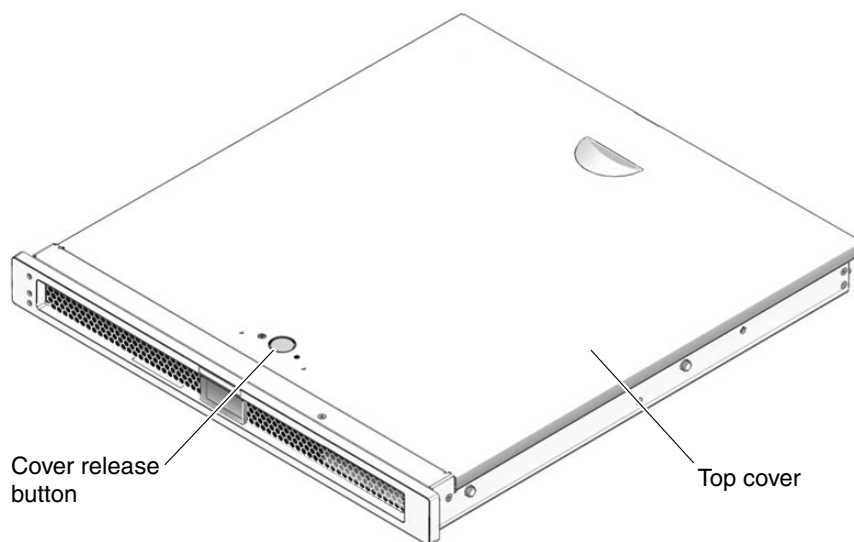

FIGURE 4-3 Location of Top Cover Release Button
1. Press the cover release button (FIGURE 4-3).